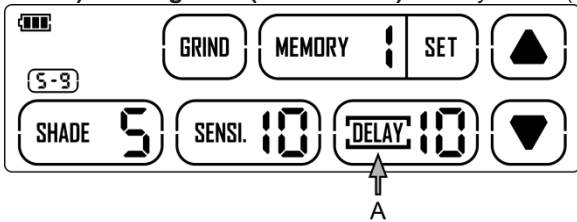

fig. 7
Touch the “DELAY” on display screen to set the delay time (see fig. 7-A), touch “▲” and “▼” to adjust the time for the lens to switch to the clear state after welding or cutting. The delay ranges for each mode are as follows:
**Weld Mode(Shade 5 ~ 9) / Cutting Mode(Shade 9 ~ 13) – Delay 0 ~ 10 (see fig. 7)**